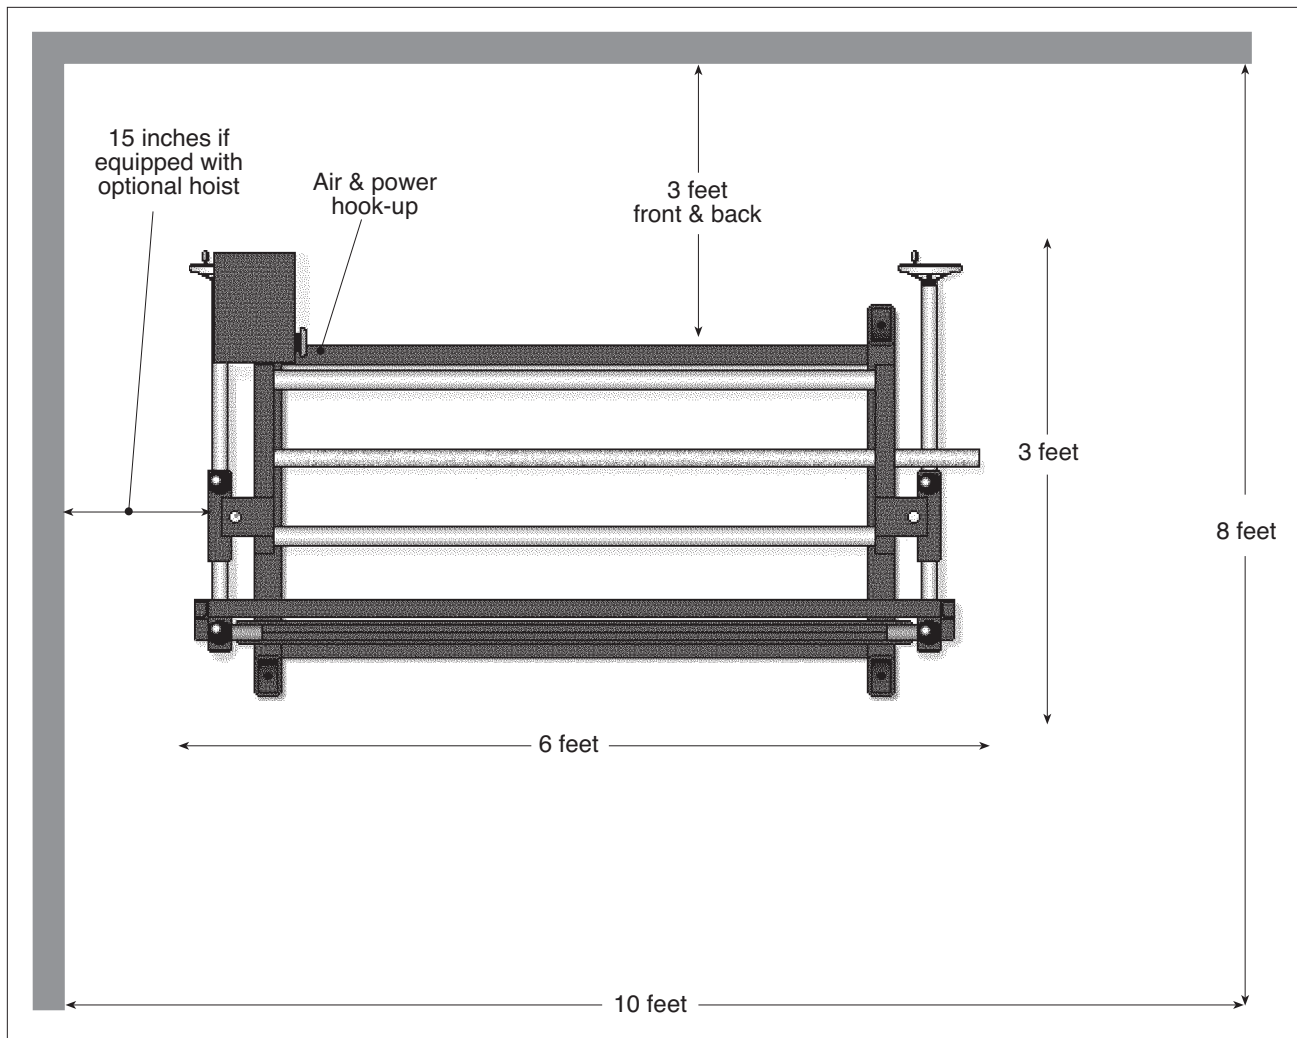

Figure 2.1 Locating your grinder
2.1.2 By now you have removed the plastic wrap from the main crate. Next, unbolt the base from the pallet and place it in the location you have selected as shown in Figure 2.1.